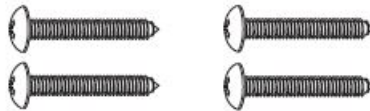

Figure 11
5. Secure the drawer with the 4 screws supplied. See Figure 11.